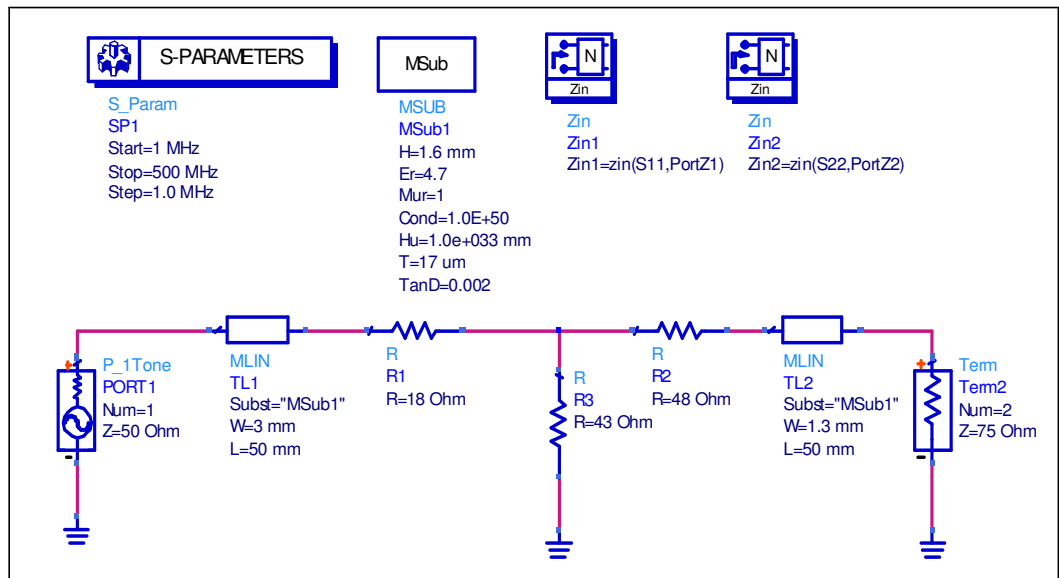

Figure 3 - T - Attenuator simulation
2. New schematic window will be open. Draw a T attenuator, as shown in Figure 3.
Table-1, list for Figure 3